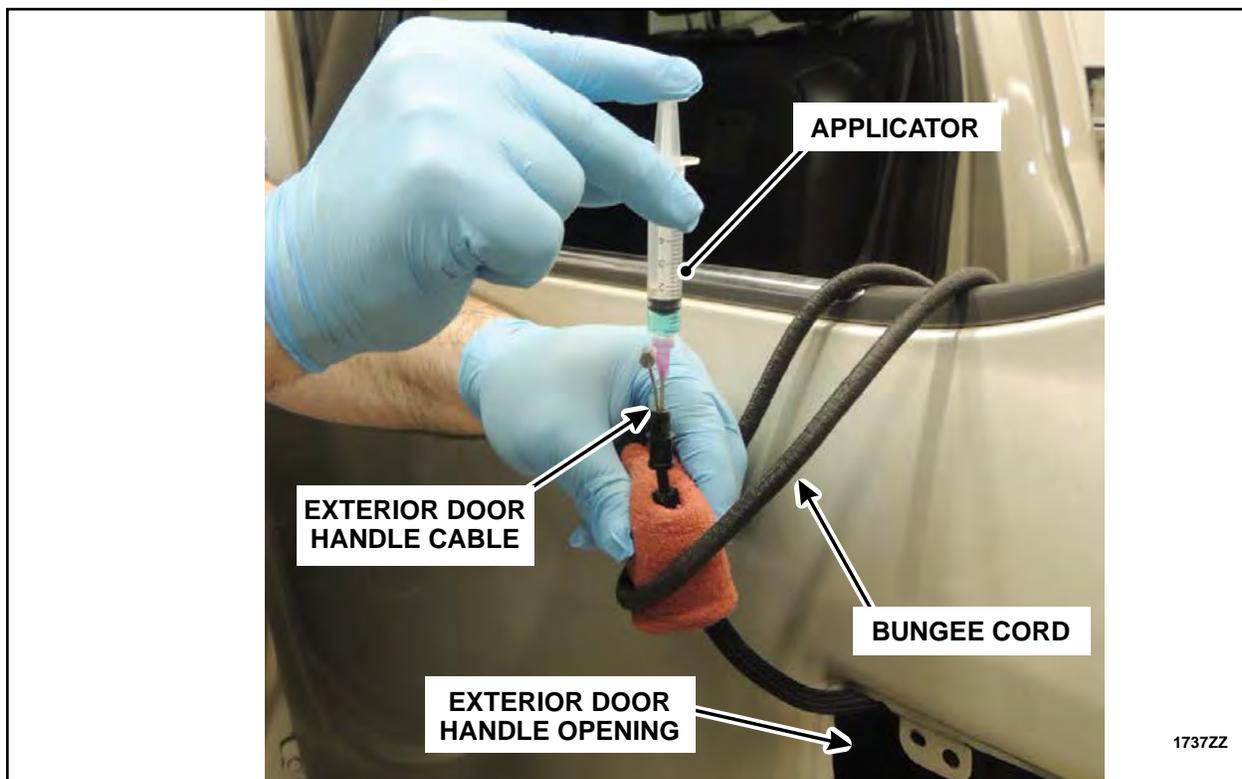

FIGURE 90
17. Towel dry the exterior door handle cable to absorb any residual moisture. Using a bungee cord or other similar device secure the exterior door handle cable to the door in an upward position as shown in Figure 90, to allow the undiluted Motorcraft® Premium Windshield Wash Concentrate (ZC-32-B2) or a 99 percent methyl hydrate (methanol) product time to run down into the cable, until the exterior door handle cable is reinstalled later in this procedure.